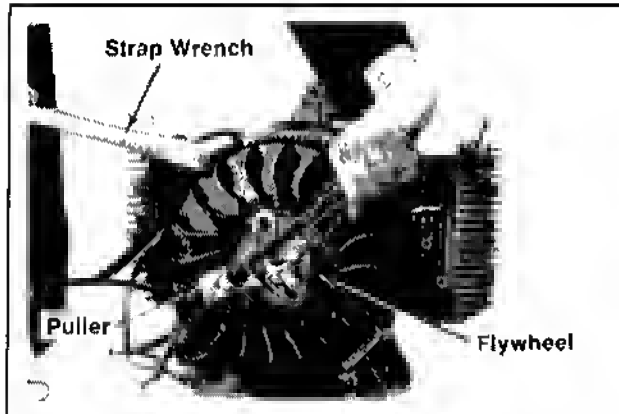

Figure 9-18. Removing Flywheel Using A Puller.
3. Remove the flywheel from crankshaft using a puller. Refer to Figure 9-18.